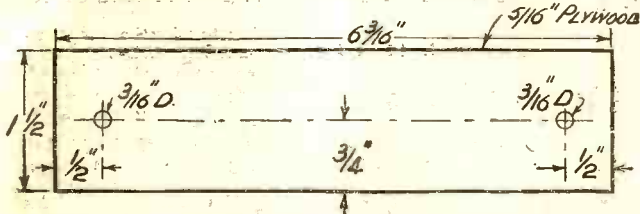

Fig 9.—The grid-bias battery is held in position against the side of the cabinet by a length of 3/16-in. plywood cut and drilled as shown above.
(J) Cut out, drill and stain the spar (see Fig. 9) which holds grid-bias battery in place.